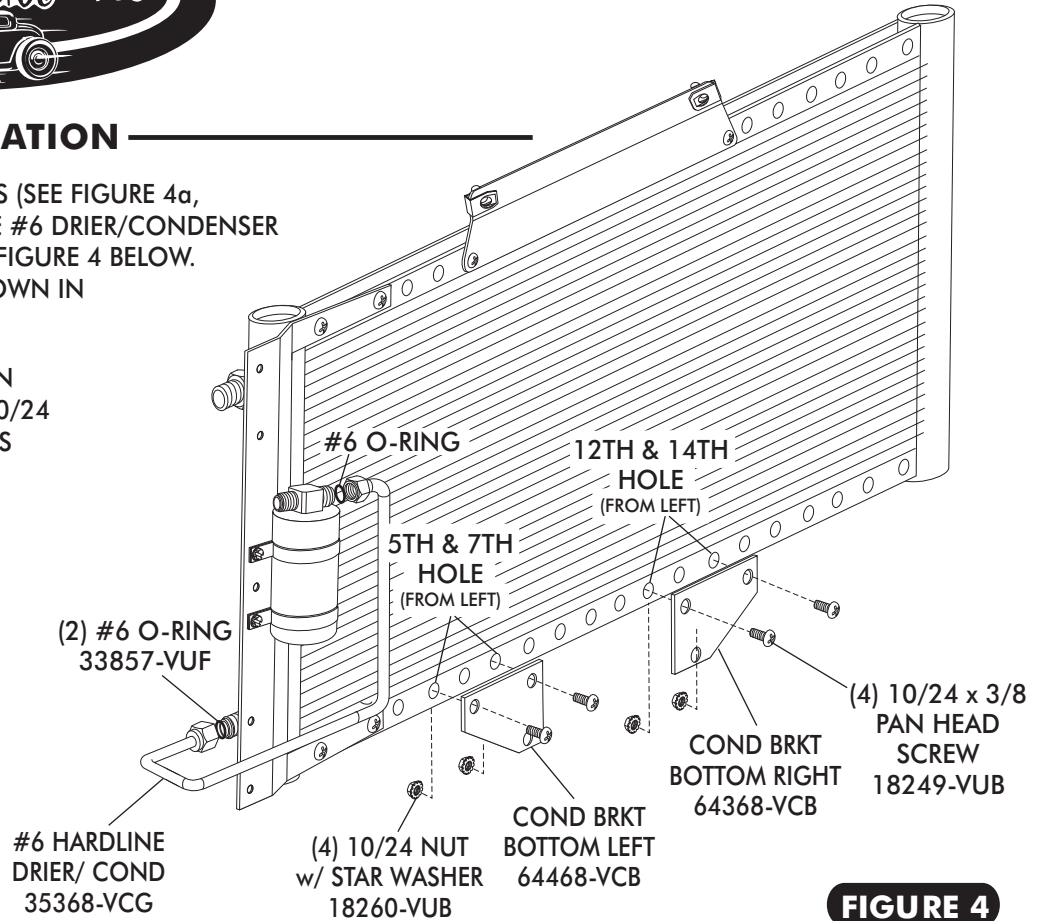

FIGURE 4
- LUBRICATE (2) #6 O-RINGS (SEE FIGURE 4a, BELOW) AND INSTALL THE #6 DRIER/CONDENSER HARDLINE AS SHOWN IN FIGURE 4 BELOW. TIGHTEN FITTINGS AS SHOWN IN FIGURE 4a, BELOW.
- USING (4) 10/24 x 3/8 PAN HEAD SCREWS WITH (4) 10/24 NUTS WITH STAR WASHERS INSTALL THE (2) LOWER CONDENSER MOUNTING BRACKETS AS SHOWN IN FIGURE 4